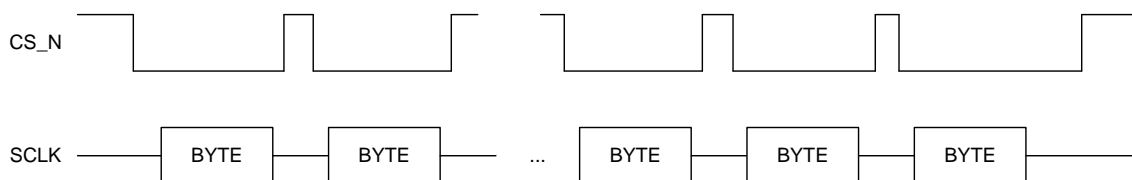

Figure 2-10 CS_N deassert mode
- Configurable option to control CS_N deassert between byte transfers. The controller supports a special transmission format called CS_N deassert mode. Figure 2-10 illustrates the waveform in this transmission format.